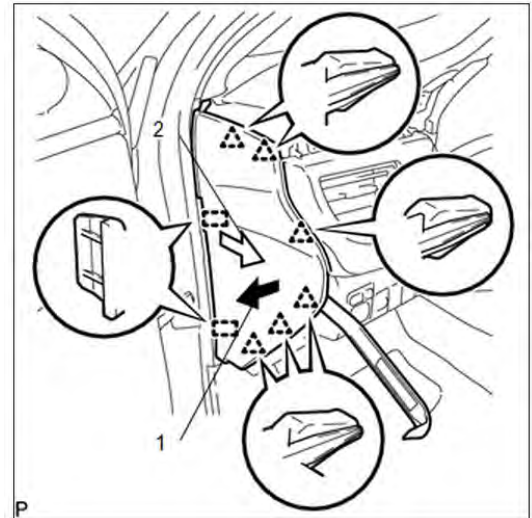

Figure 12
21. Remove Instrument Side Panel LH (Figure 12).